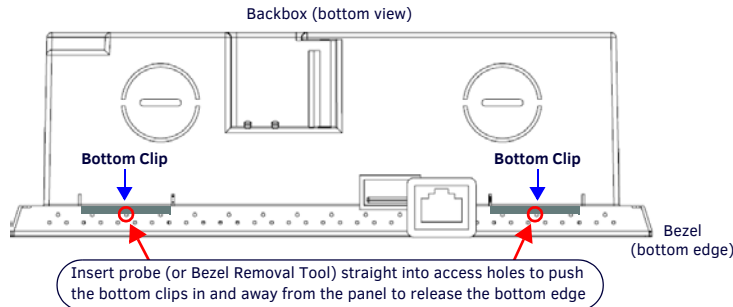

FIG. 6 ACB-2107/BACKBOX ASSEMBLY - BOTTOM VIEW
- With a thin probe, carefully press straight into the access holes on the bottom of the bezel (near the center of the bottom tabs) to disconnect the two bottom clips (FIG. 6):